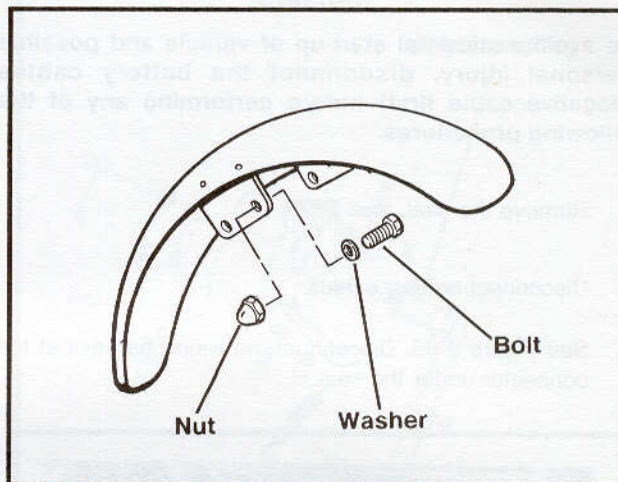

Figure 2-88. Front Fender - FXSTS
1. See Figure 2-88. Bend the speedometer cable fender bracket & slide the speedometer cable out of the bracket before removing the fender.
2. Remove four (4) bolts, washers and acorn nuts to remove the fender.
1. See Figure 2-88. Install the fender using four (4) bolts, washers and acorn nuts.